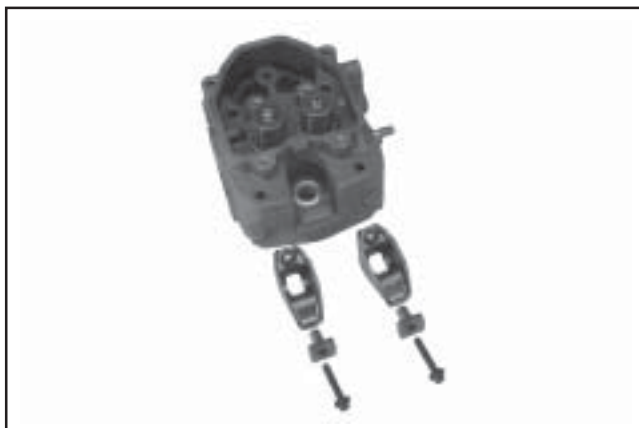

**Figure 9-53. Removing Lifters.**
5. Remove the hydraulic lifters using a hydraulic lifter removing tool (**do not use a magnet**). Mark them similar to the push rods (intake or exhaust and cylinder 1 or 2). Hydraulic lifters should always be reinstalled in their original location. See Figure 9-53.